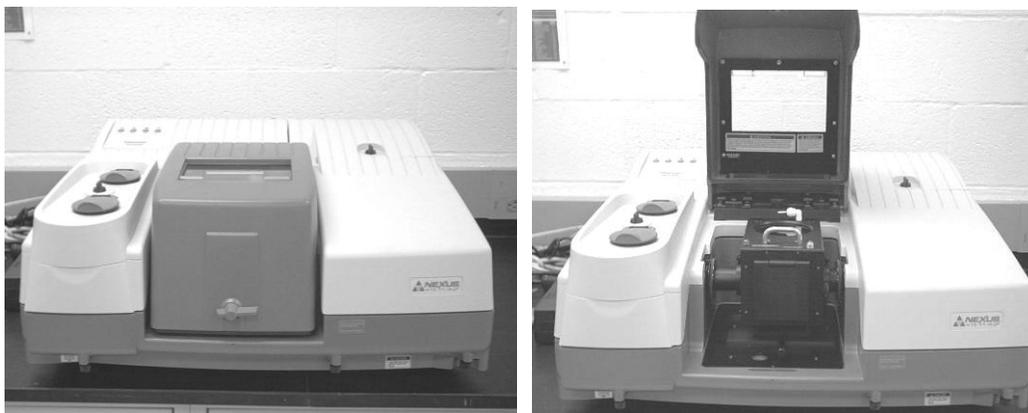

Figure 3: FTIR with the lid closed and open. The knob is at the base of the open lid.
- 2.a. Open the lid of the FTIR as shown in Figure 3 below.